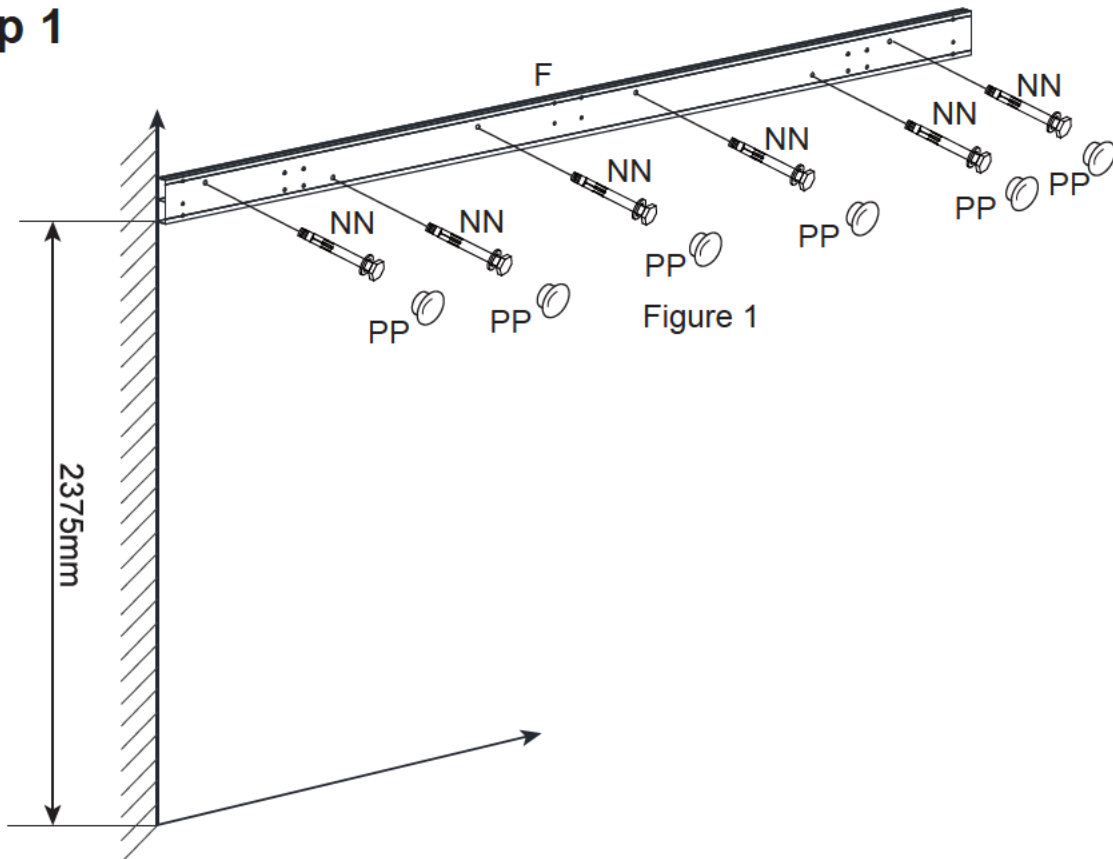

Figure 1
1. Adjust the bottom height of the Rear Lintel (F) to 2375MM above the horizontal floor level and secure the Rear Lintel (F) to the wall with Bolts (NN). Then cover the holes with Caps (PP). See Figure 1.